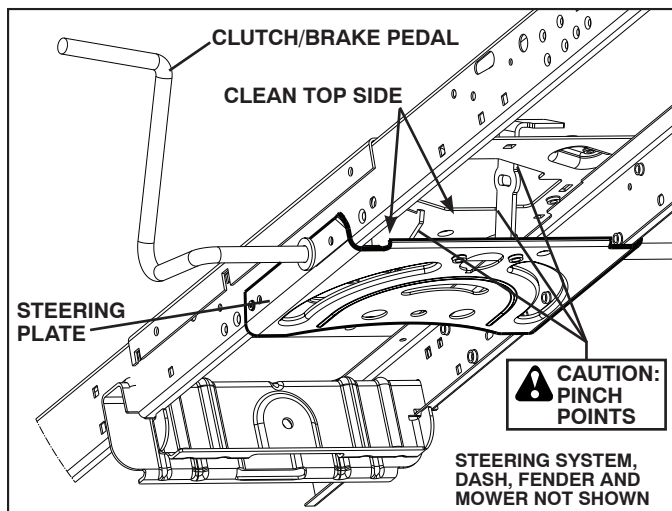

Fig. 20
**CAUTION:** Avoid all pinch points and movable parts (See Fig. 20)